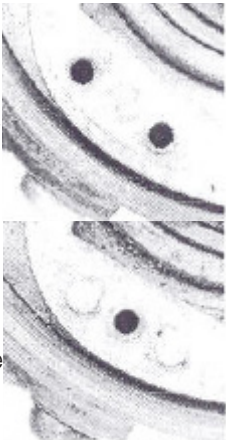

Fig. 6
- **PART NUMBER 2563LSN6**, Position the Ignitor plate over the condenser mounting point of the breaker plate. There are both single and dual screw condenser mounting configurations (See Figure 6). The Ignitor plate fits over both types. Confirm that the Ignitor plate is flat and fits without any modification. Fasten the plate in place using the provided screw or screws. **NOTE: IAP Series distributors require the removal of the point adjustment eccentric screw.**